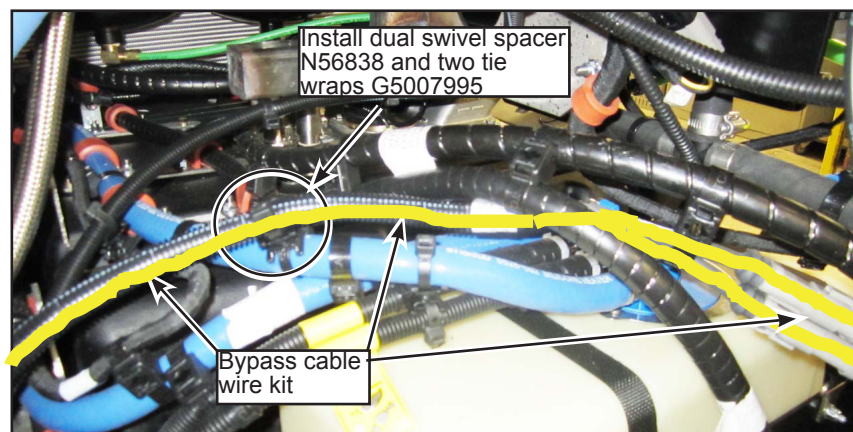

Figure 8 - Install the Dual Swivel Spacer with Two Tie Wraps
- 1.8. Install the second N56836 dual swivel spacer with two G5007995 tie wraps (see Figure 8).